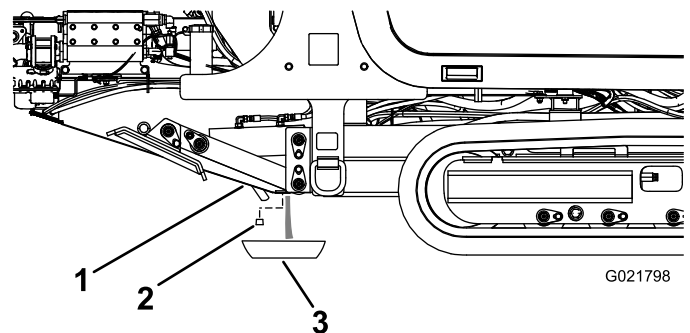

Figure 90
3. Loosen the drain plug until the water and sediment drain out (Figure 90).